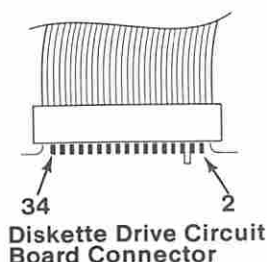

Figure 3. Voltage Check
- Power on the system and check the voltage at pin 30 on the diskette drives' circuit board (Figure 3).